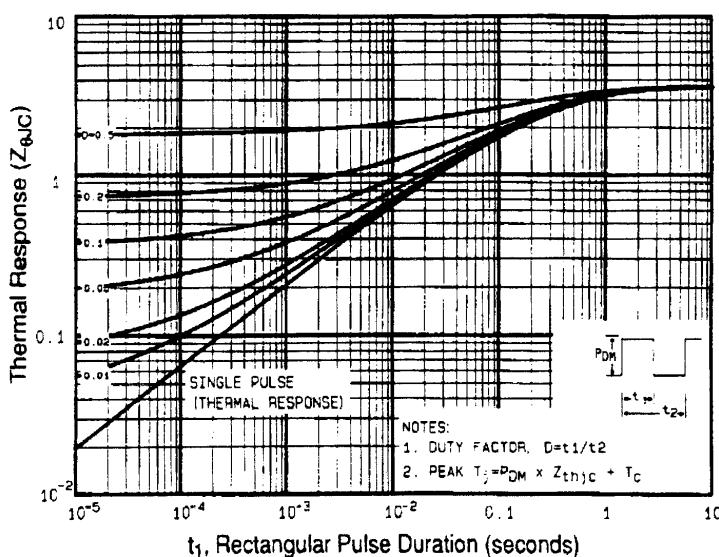

Fig 11. Maximum Effective Transient Thermal Impedance, Junction-to-Case
① Repetitive rating; pulse width limited by max. junction temperature (See Figure 11)
③ $I_{SD}\leq 5.6\text{A}$, $dI/dt\leq 120\text{A}/\mu\text{s}$, $V_{DD}\leq V_{(\text{BR})\text{DSS}}$, $T_J\leq 150^\circ\text{C}$
⑤ $t=60\text{s}$, $f=60\text{Hz}$
② $V_{DD}=50\text{V}$, starting $T_J=25^\circ\text{C}$, $L=15\text{mH}$